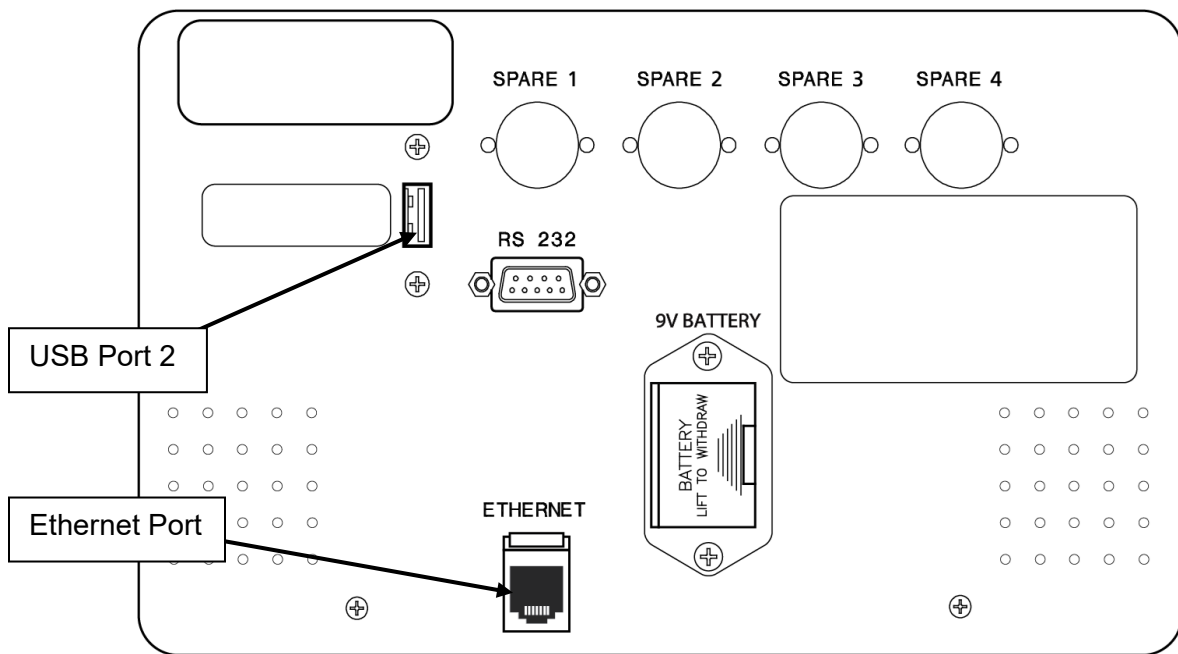

Figure 107 – CDX PC Access on the Back Panel
USB port 2 is located on the back panel of the machine (see Figure 107). It is used by the CDX system. Additionally, the back panel features an Ethernet port for the CDX PC.
- Booting from a USB drive, with the operating system pre-installed, connected to the USB port on the back panel (see Figure 107).